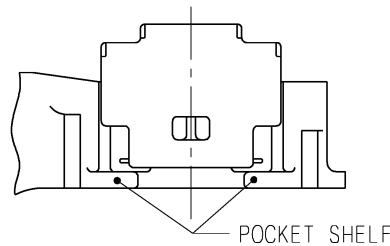

Figure 2
1. Insert the friction wedge into the bolster pocket and place on the pocket shelf (see figure 2).